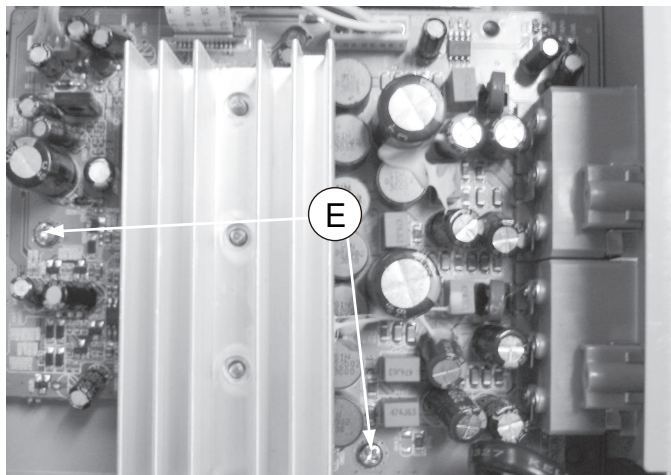

Figure 9
- 2 screws “E” on the top of AMP board as shown in figure 9.